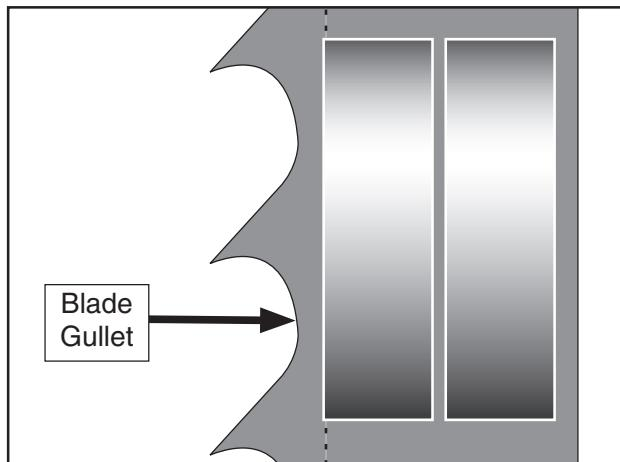

Figure 46. Lateral adjustment of blade guides.
- Loosen the cap screw on the lateral adjustment rod and adjust the blade guides until the edges of the bearings are $1/16$ " behind the blade gullets as illustrated in **Figure 46**.